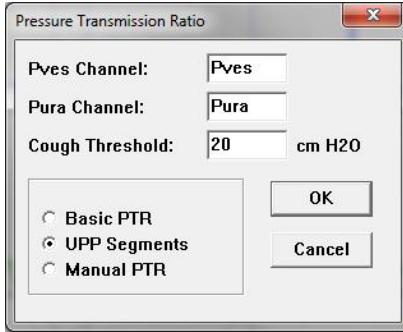

Figure 136: Pressure Transmission window
1. Click Info > UPP and select Pressure Transmission to launch the Pressure Transmission window (Figure 136).
1. Click **Info > UPP** and select **Pressure Transmission** to launch the **Pressure Transmission** window (Figure 136).